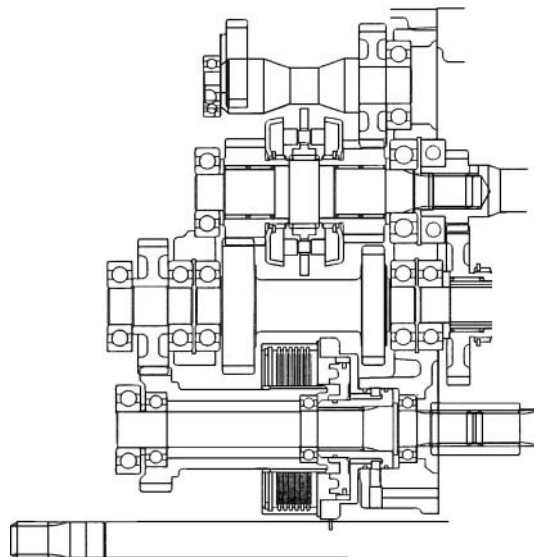

Fig.5-24
a. Draw shaft along with gear (Fig 5-24)